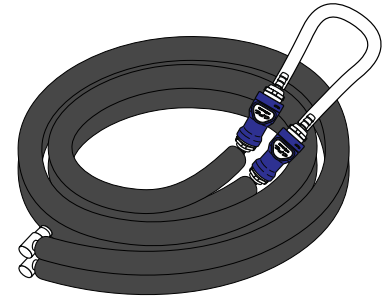

Figure 9. Therapy Hose with Installation Hose installed
2. Connect the Installation Hose to the Therapy Hose to create a loop-back for coolant flow (Figure 9).